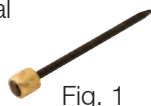

Fig. 1
2. Determine the desired location of the Omni Track Wall Track (792.00.000) and temporarily position on the wall using two special Installation Nails (792.01.998). (See Fig. 1)